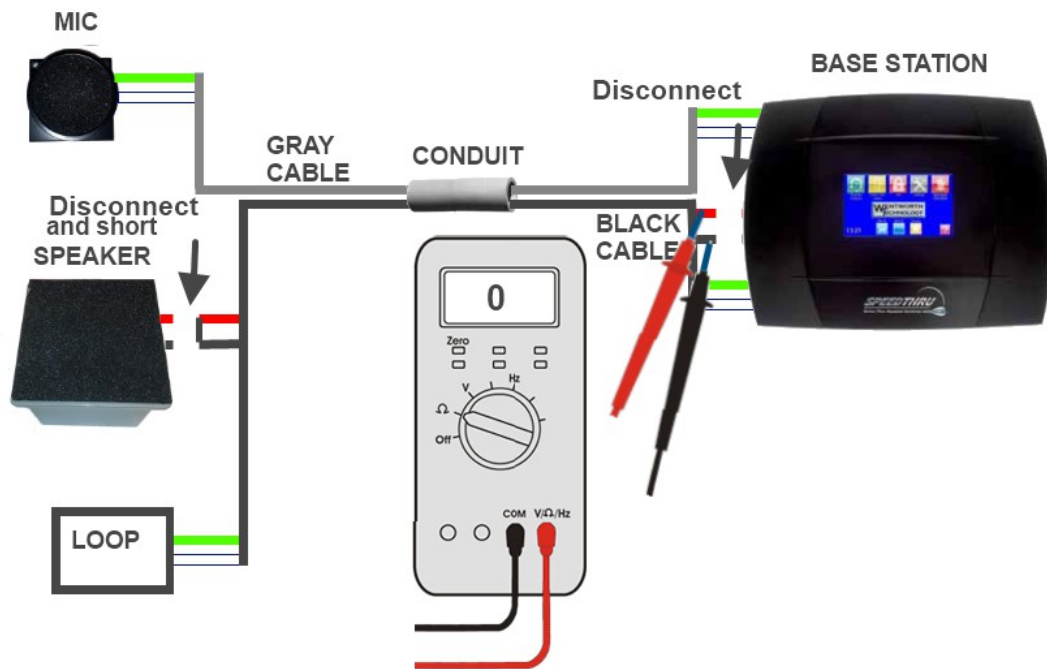

Figure 6: Testing wiring for an open circuit
2. Disconnect the wires from the base station AND mic, speaker, or loop. Strip and twist the two wires together one end of the cable so they are connected. Go to the other end and read Ohms across the two wires as shown in Figure 6. It should read less than 10 Ohms. If not, the wire is broken, find and repair the break, or replace it.